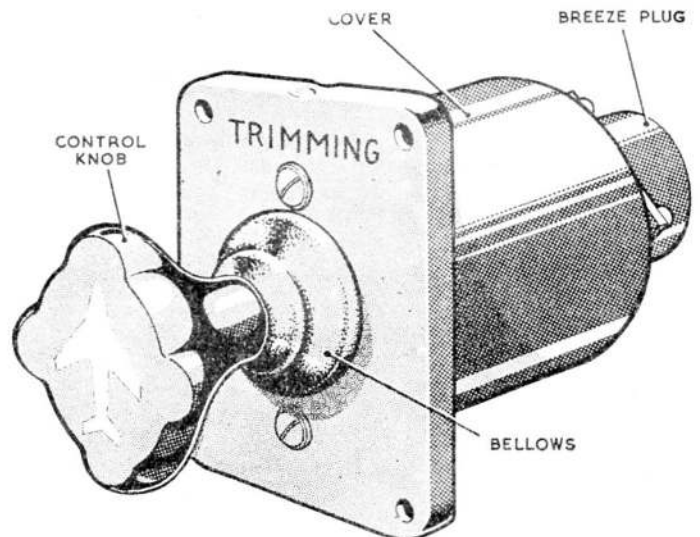

Fig. 1. Trim switch, Western, Type LSI611
2. The trim switch (fig. 1) consists of two separate switching assemblies contained inside a cover and operated by one control knob. Distance tubes are fastened to a base plate, and a top plate with a sealing ring fits over the open end of the cover and the tops of the distance tubes. The switching assemblies fit inside the cover and are secured to the distance tubes and the top plate. The control knob is fastened to a shaft which operates the switches, and a bellows between the knob and the top cover of the switch prevents the ingress of dirt.